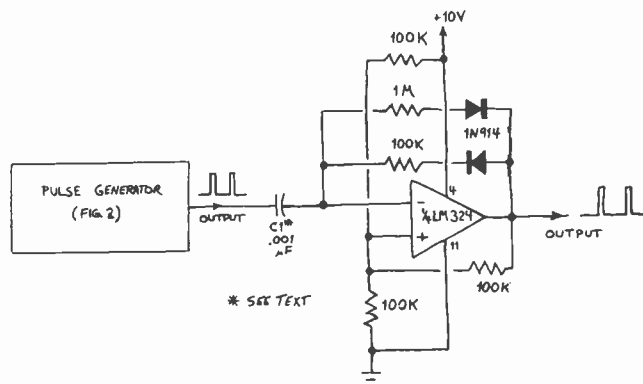

Fig. 4. Synchronized pulse generator uses half of an LM324.
2. A dual-synchronized pulse generator with two independent repetition rates. Figure 4 shows how to connect two op amps in the LM324 to achieve this function. A circuit like this has obvious uses in electronic music, frequency synthesis, frequency division, etc.